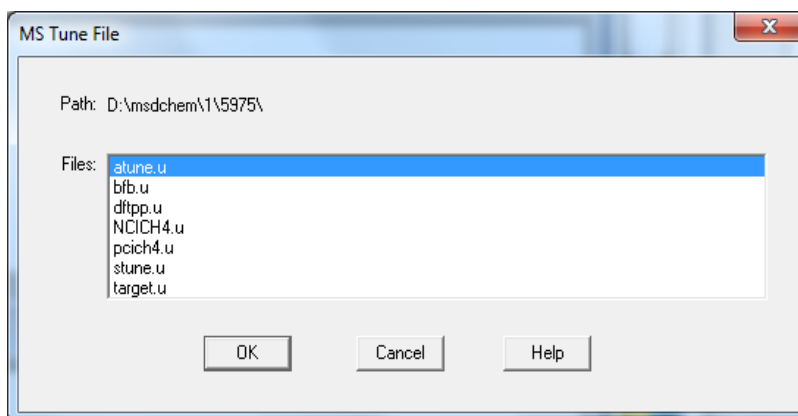

Figure 16 Selecting the method MS tune parameter file
- 5 Select **OK** to save the settings and close the dialog box. The **MS Tune File** dialog box opens. See Figure 16.